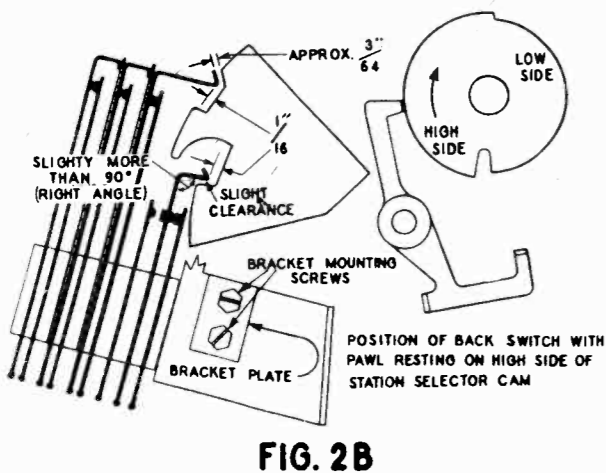
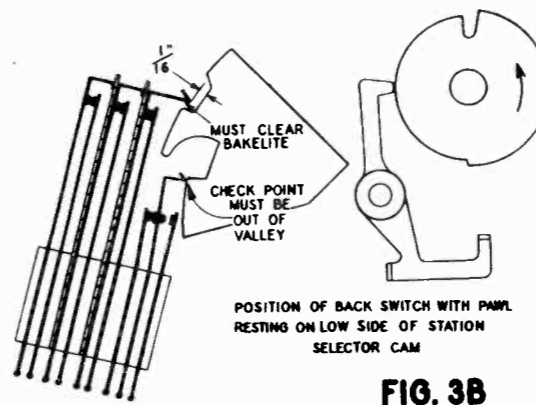
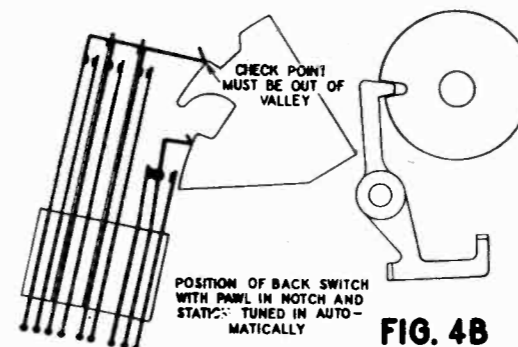

FIG. 2B
FIG. 3B
FIG. 4B
8 Run the dial pointer to 530 KC. Turn the power off. Push any button so that the Pawl falls on the High Side of the Station Selector Cam. The Back Switch Operating Arms should clear the Bakelite Cam by the amounts indicated in figure 2B. IF THE CLEARANCES ARE APPROXIMATELY CORRECT, PROCEED WITH SECTION 9. However, if the clearances are not as shown, slight discrepancies can be corrected by bending the Arms, but if the entire switch seems to be out of position, loosen the Bracket Mounting Screws (see figure 2B) and move the entire Back Switch assembly to give the proper clearances.
a. With the Bakelite Cam down as in figure 2B, the center contact should make with the front contact, while with the Bakelite Cam pulled up as in figure 3B, the center contact should make with the back Reversing Contact. After the instant of closing the blades should move slightly to show adequate contact pressure. IMPORTANT: Make sure that the center contact is not touching both the front and back contacts at any one time, since this may short circuit the 6-volt winding of the power transformer. If the Reversing Contacts do not make or break, bend the switch blades to secure proper operation.
b. With the dial pointer at 530 KC. push each button and make sure that the Reversing Contacts Operating Arm does not touch the Bakelite Cam. See figure 2B. The Pawl, in every case, should rest on the High Side of the Station Selector Cam.
c. Now pull out the Set-up Knob and run the pointer to the high frequency end of the dial by turning the Set-up Knob clockwise. Push each button to make sure that the center contact closes with the Back Reversing Contact. In every case the Pawl should rest on the Low Side of the cam. See figure 3B.
a. Leave the Bakelite Cam in the Position of figure 3B. The long Mute blade should barely hold the thin bakelite strip against the Power blade, and the long A.F.C. blade should barely hold the thin bakelite strip against the Mute blade.
b. Move the Bakelite Cam up and down by hand and observe the action of the contacts. With the Bakelite Cam up as shown in figure 4B all three sets of contacts should be open approximately 1/32 of an inch. As the Bakelite Cam is moved down (to the position of figure 3B) all three sets of contacts should close. After the instant of closing the blades should move slightly to show adequate contact pressure.
a. Push any button. Turn the Set-up Knob until the Pawl drops into the Notch on the Station Selector Cam. The upper Back Switch Operating Arm should rest just up out of the "Valley" on the Bakelite Cam (See "Check Point" on figure 4B), and
b. Repeat the above step for each of the other buttons. This is important. Due to slight variations in the Pawls, it may not be possible to adjust for all buttons so that the Back Switch Operating Arm comes exactly at the "Check Point" of figure 4B, but make sure that the Power, Mute and A.F.C. contacts are open at least 1/32 of an inch for each button, when the Pawl is in the Notch. Notice, too, that the bending of any switch blade or operating arm may throw out a preceding adjustment. For this reason it is well to check through the entire adjustment procedure a second time.